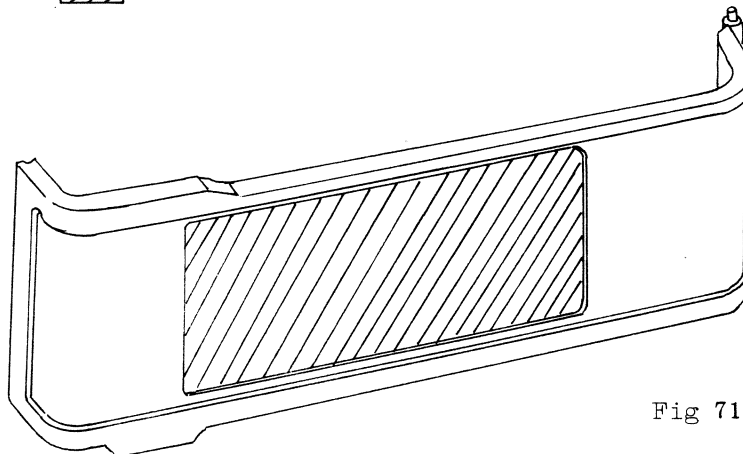

Fig 71
(1) The Modified Back Cover (Fig 71)